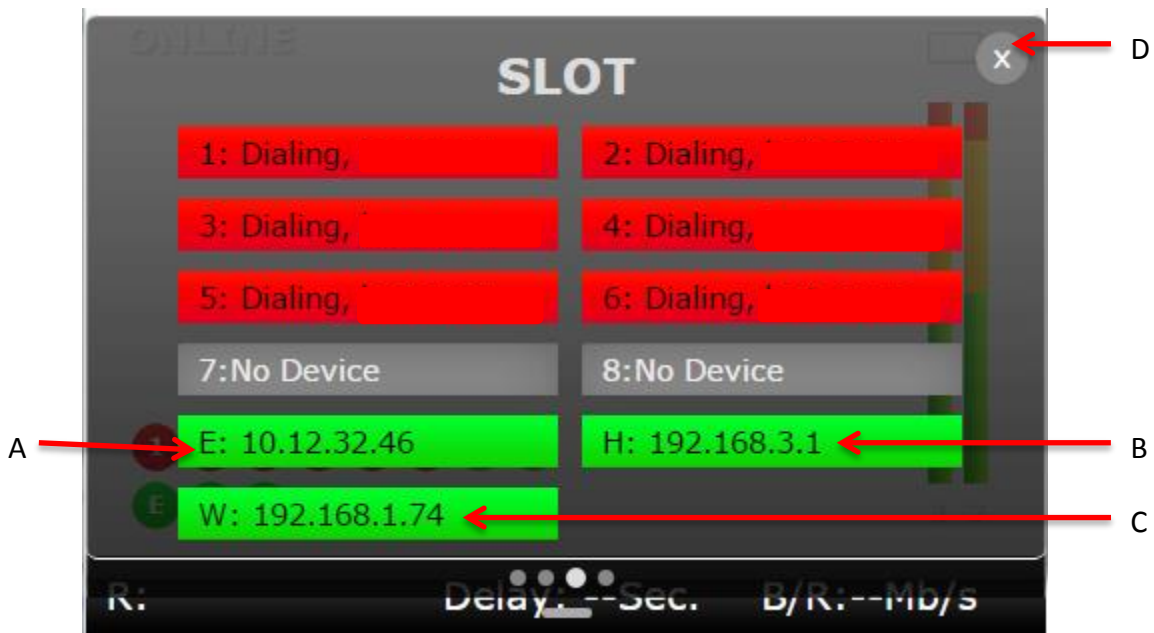

Figure 13
Access that drop down menu by sliding a finger from the top of the screen to the bottom. Swipe from right to left two times to view the "Modem" monitoring interface (Figure 13). On this page, users can see detailed information for each card within the TVU One unit as well as the Ethernet (A), Hotspot (B), and Wi-Fi connections (C).